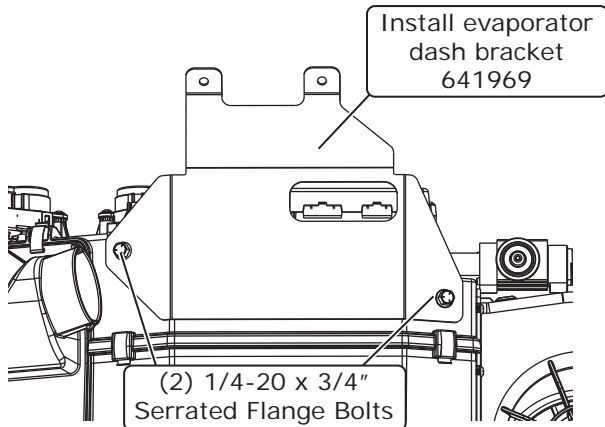

Figure 4
5. Using (2) 1/4-20 x 3/4" serrated flange bolts, install the evaporator dash bracket (See Figure 4, below).